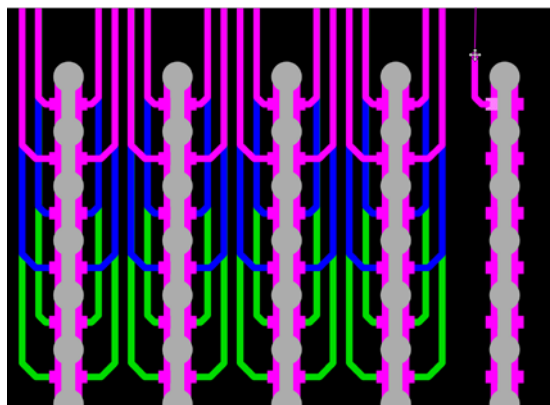

Figure 18: VeCS structures may now be freely copied in the design file.
- Now, freely copy the VeCS structure inside of the BGA pin field as required (Figure 18)